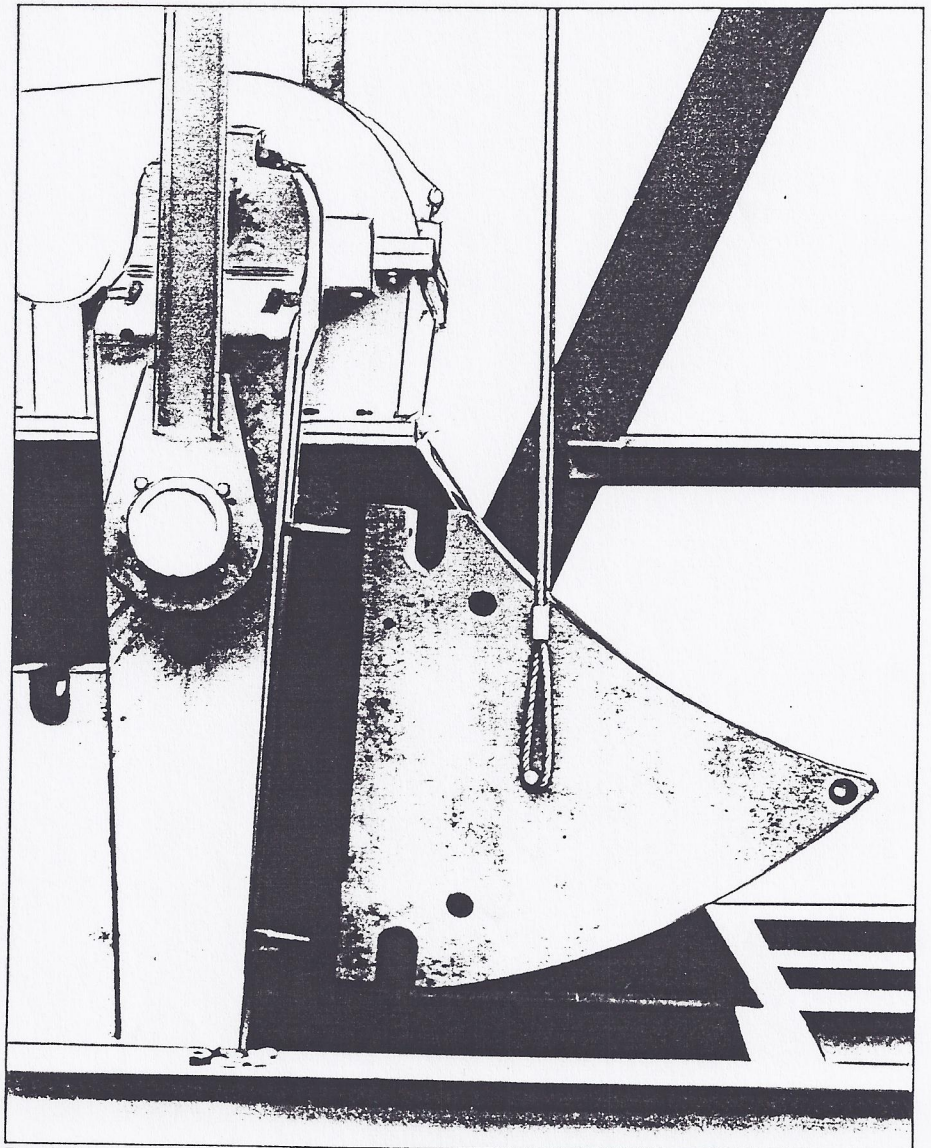

Figure 9
- c. Lift each master weight in a vertical position by means of a lifting sling and attach to position on the cranks for desired counterbalance effect. See illustration in Figure 9.